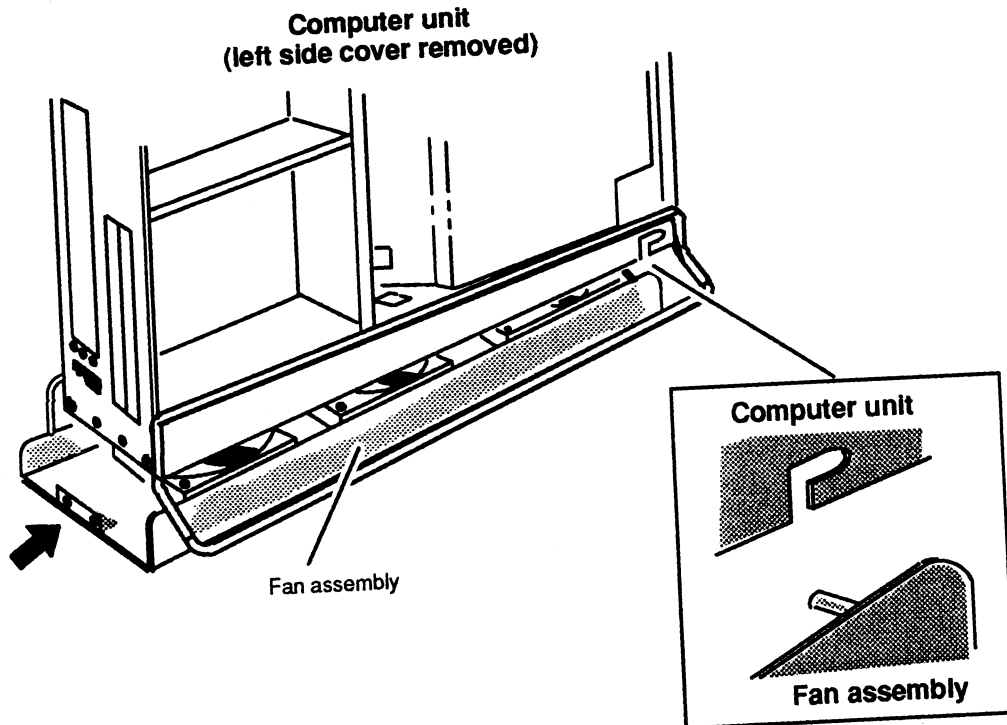

Figure 6-16 Installing the Fan Assembly in the Computer Unit
3. Insert the two pins on the fan assembly into the two slots on the bottom front of the computer unit as shown in Figure 6-16, and push the fan assembly forward to secure it to the computer unit.